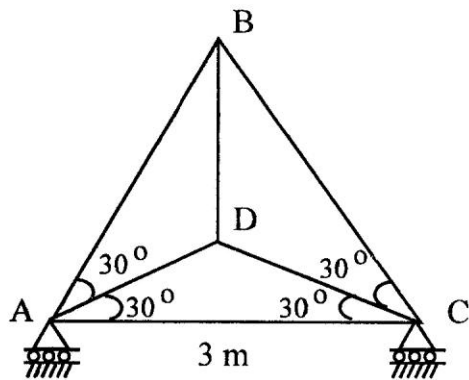

Figure-10
10. Find the forces developed in all the members of the truss shown in figure-10, if the temperature of member AC goes by 20°C , Take the co-efficient of thermal expansion $\alpha = 12 \times 10^{-6}/^{\circ}\text{C}$. cross sectional area of members is 2500 mm^2 and $E = 2 \times 10^5 \text{ N / mm}^2$.